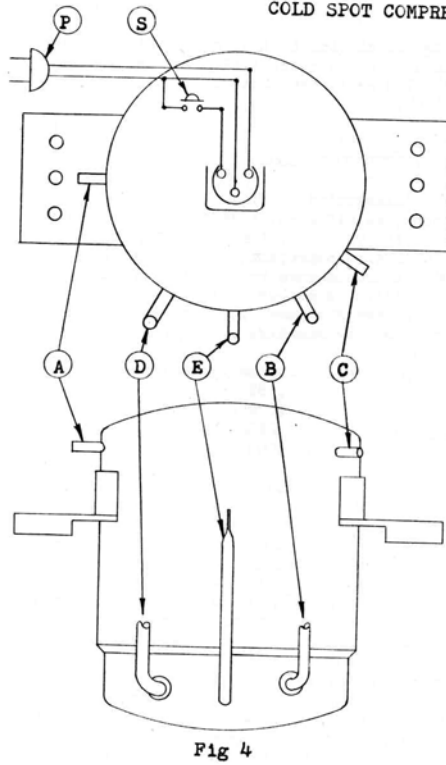

Fig 4
Unlike the Frigidaire, the Cold Spot compressor exhausts through a separate opening (B) in the case. A connection must be provided from line B to line C to return to the pump the oil that slowly emerges through line B. Except for the location of the terminal (Fig. 4) the starting procedure is similar to Frigidaire. Temperature rise in the windings is a safe 30 degrees C on continuous use.